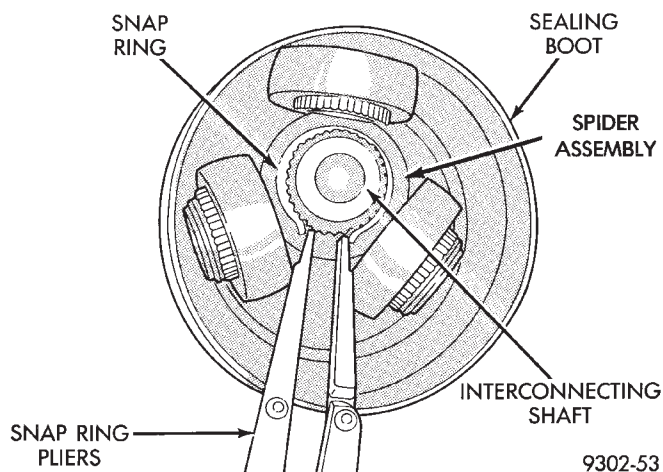

Fig. 5 Spider Assembly Retaining Snap Ring Installation
(3) Install the spider assembly to interconnecting shaft retaining snap ring into groove on end of interconnecting shaft (Fig. 5). Be sure the snap ring is fully seated into groove on interconnecting shaft.